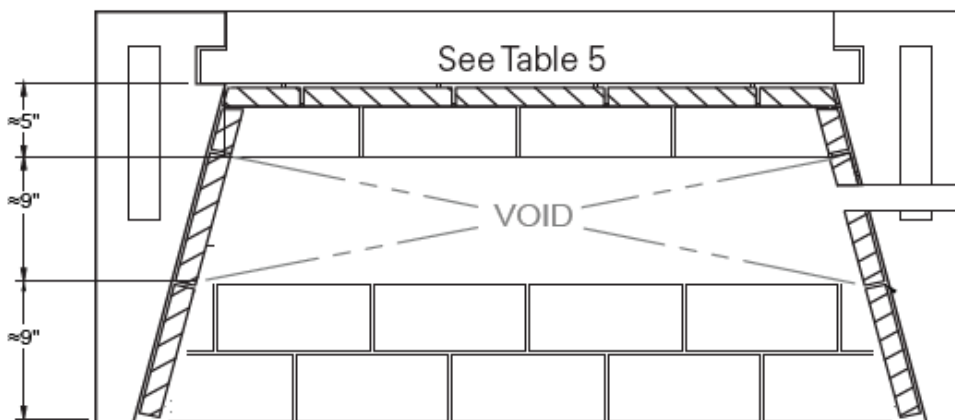

FIGURE 58
- 3) The burner cavity must have a height of 2-1/2”, a depth of 8-3/4”, and the length shall extend the entire length of firebox. **(Table 5; Figure 58 & 59)**